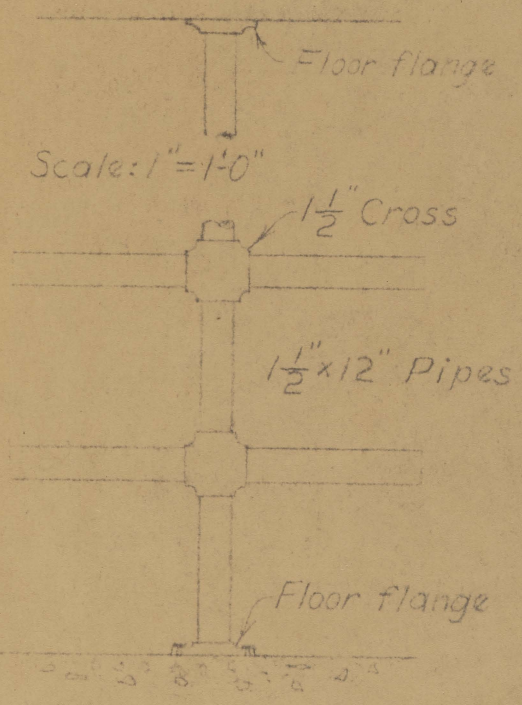

Fig. 3 - Center Rack
The 45° angle is determined by a square so placed on the top that an equal distance on each blade of the square hits the opposite side (fig. 3).
1. Assemble as shown in fig. 3. The dimensions will be determined by the height of the ceiling and the number and the size of the racks required. Racks should be placed close enough together so the lumber will not sag between them.
2. Remove a portion of each end of the side pieces to form handles either by hand saw or jig saw. Dress the handles with a draw knife or plane (fig. 3).